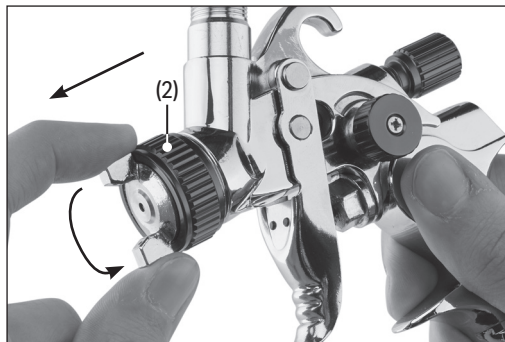

Fig. 2
1. Unscrew and remove the air cap lock ring (2) (Fig. 2).